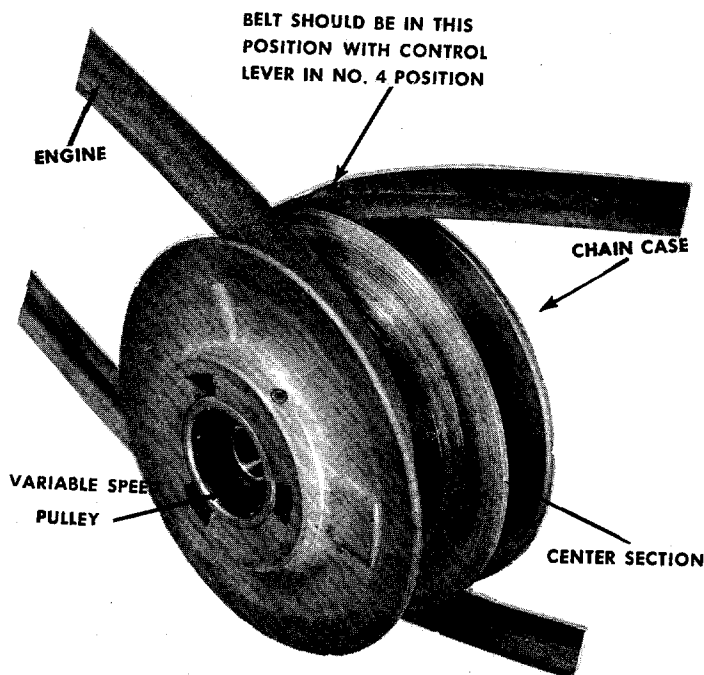

FIGURE 20. VARIABLE SPEED PULLEY
- Step 5. If adjustment is necessary, adjust the control rod by screwing it in or out of the ferrule as necessary. See figure 20.